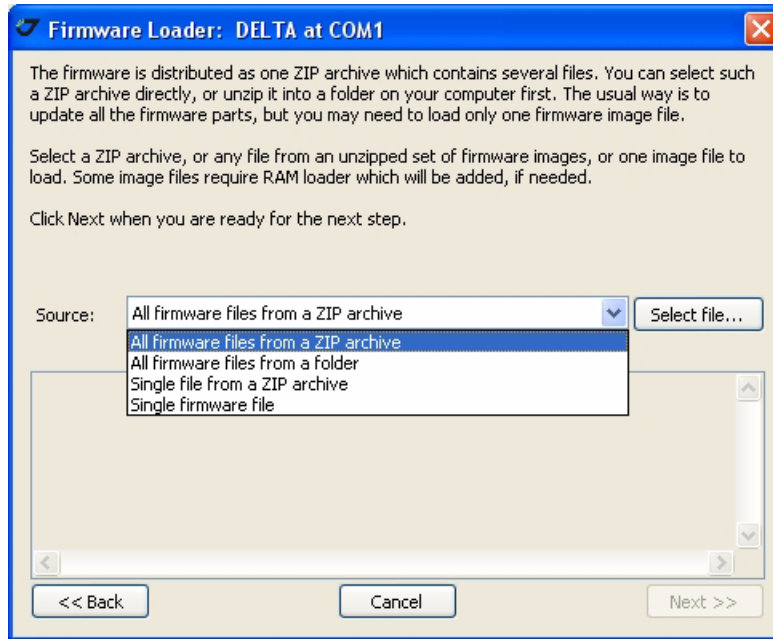

Figure 5-16. Firmware Source
5. Select the ZIP archive, or any file from unzipped set of firmware images, or one image to load. Click *Next*>> (Figure 5-16).